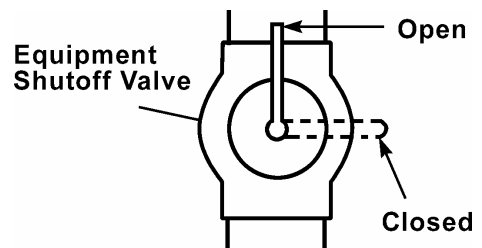

Figure 10
1. Open equipment shutoff valve (see Figure 10).
1. Close equipment shutoff valve (see Figure 10).